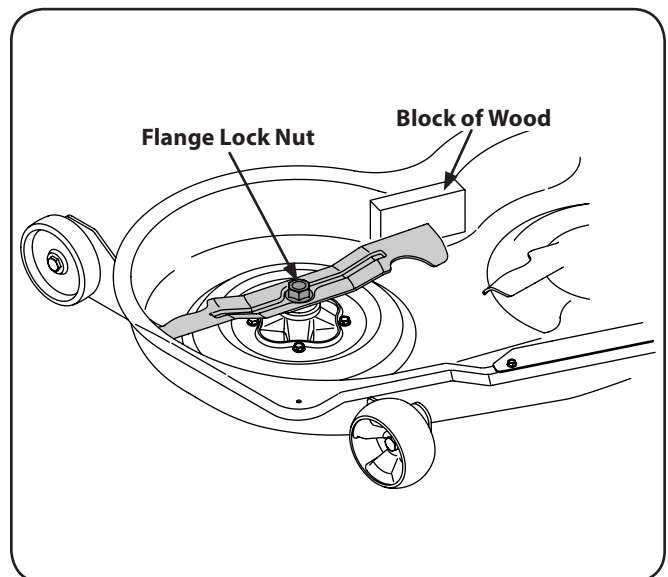

Figure 7-7
- Place a block of wood between the center deck housing baffle and the cutting blade to act as a stabilizer. See Fig. 7-7.
- Remove the flange lock nut that secures the blade to the spindle assembly. See Fig. 7-7.